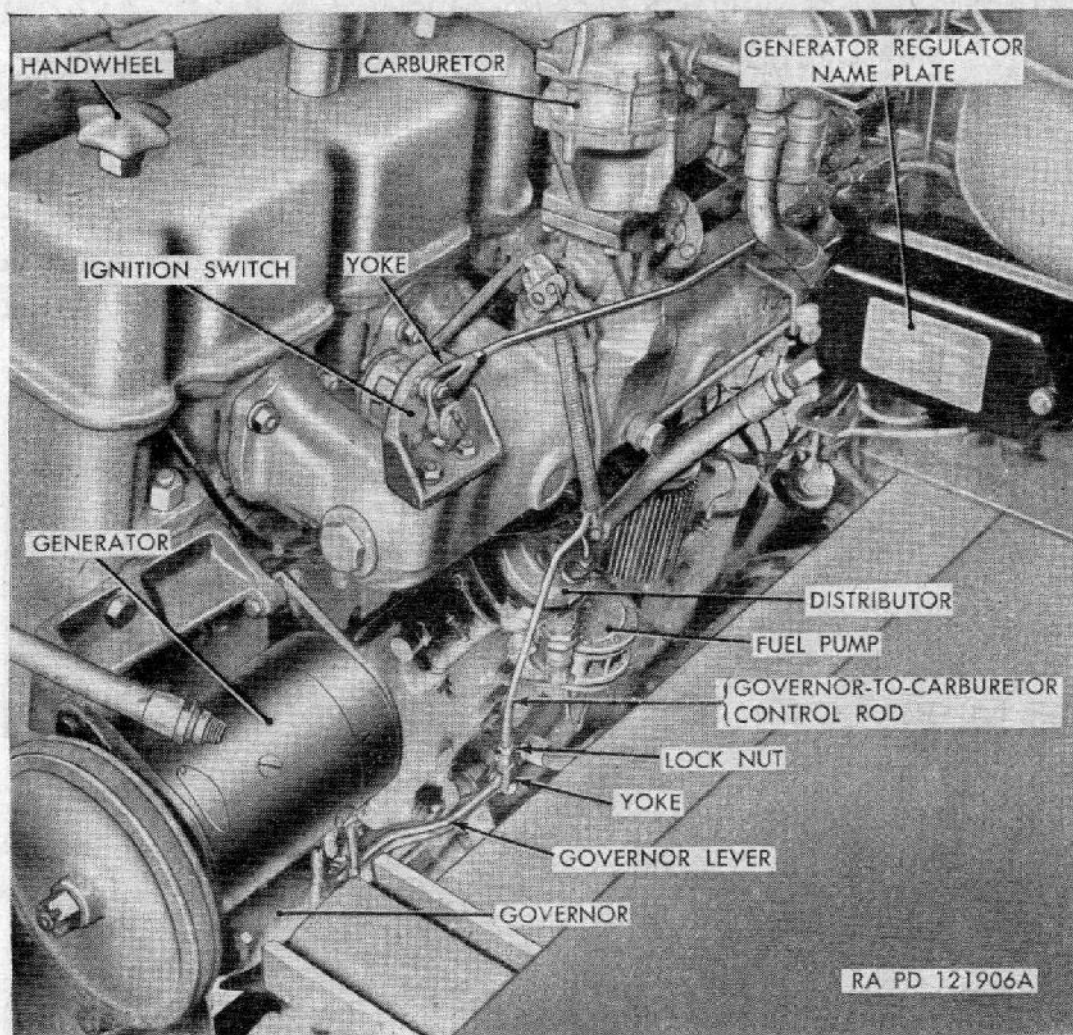

Figure 58. Governor linkage controls.
off valves. Disconnect inlet and outlet fuel hoses from pump. Remove two cap screws attaching fuel pump to cylinder block, and pull pump away from engine (fig. 58).
(a) Remove the governor-to-carburetor rod spring, and disconnect both ends of rod (fig. 58). Turn yoke on rod to adjust distance between center of yoke pin holes to $18\frac{1}{8}$ inches measured on a straight line. After rod has been adjusted, connect rod to governor and throttle levers and install spring; then check to make sure there is no interference between upper yoke and the intake manifold or carburetor mounting adapter. Make this check with the governor lever at its rest position. If necessary, cut a small portion away from adapter or manifold to make clearance and prevent preloading the throttle shaft.
- (2) *Distributor.* The distributor is located on the right side of each engine (fig. 58). It is a dust sealed type unit with automatic centrifugal advance mechanism. The distributor shaft and rotor are rotated by a drive operating off the engine camshaft. A capacitor is held in position by a cap screw inside the distributor.
a. Removal (fig. 58). Open the engine compartment doors. Pull end of high tension cable out of center socket of distributor cap. Remove two nuts from terminals on the coil and remove wires. Remove the two coil mounting cap screws and remove coil. Slip rubber nipple up on cable at center of coil, and turn cable until removed from coil.